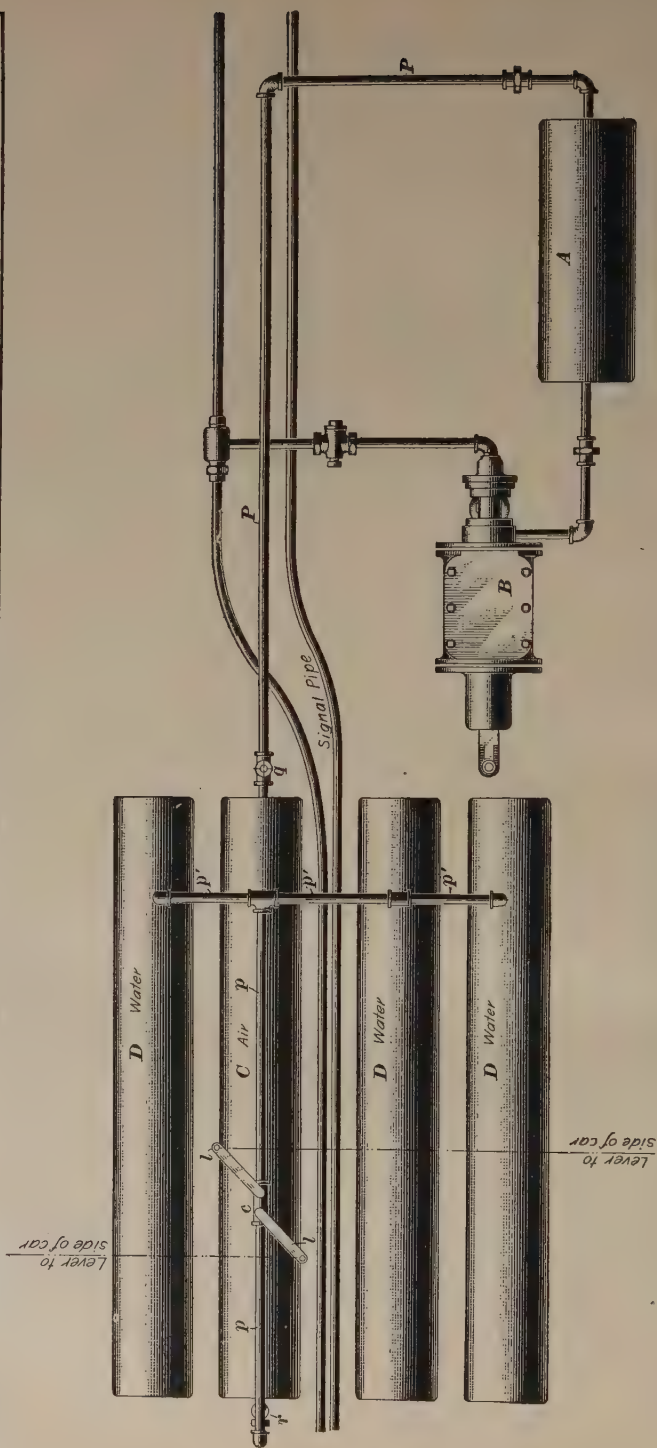
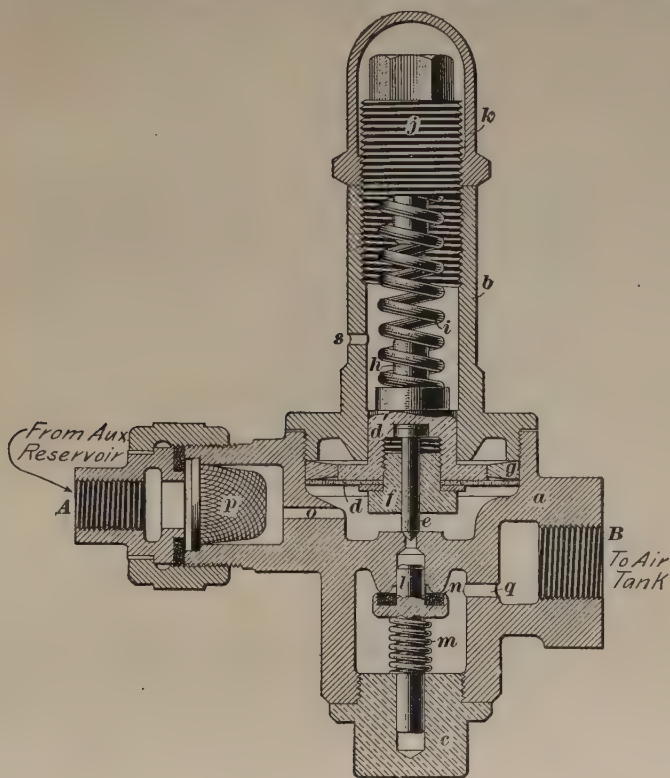

FIG. 23
FIG. 24
36. First Method.—Fig. 23 shows one of two modern methods used for raising water; it differs from the two already described in the fact that it draws the air pressure from the auxiliary reservoir instead of from the train pipe. This was done so as to avoid the evils resulting from taking the air from the train pipe, which affected all the brakes, while taking the air from the auxiliary only affects one.
37. Air-Pressure Governor.—Fig. 24 shows in section the latest form of air-pressure governor used at *g*, Fig. 23. The parts as marked are *a*, the body; *b* and *c*, the